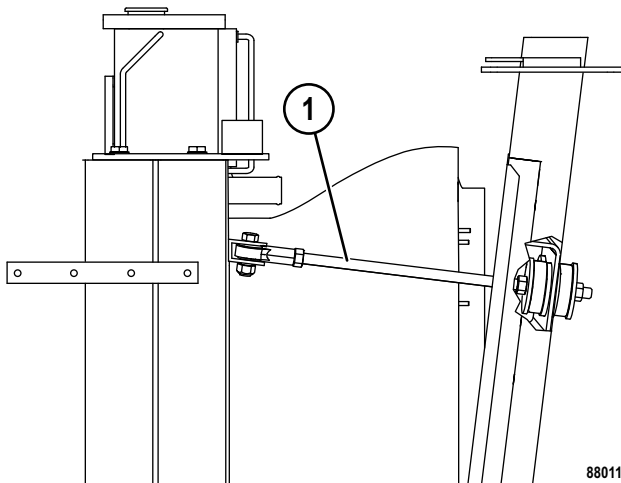

FIGURE 50-52. UPPER SUPPORT ROD REMOVAL
- 18. Remove upper support rods (1, Figure 50-52) from both sides of the radiator.